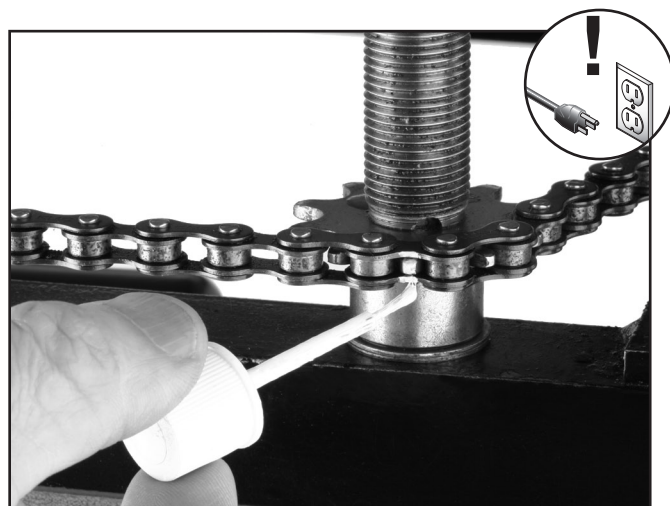

Figure 37. Marking sprocket tooth and chain.
4. At the lift screw that needs to be adjusted, mark the end of a sprocket tooth and the chain hole where that tooth is meshed, as shown in **Figure 37**.